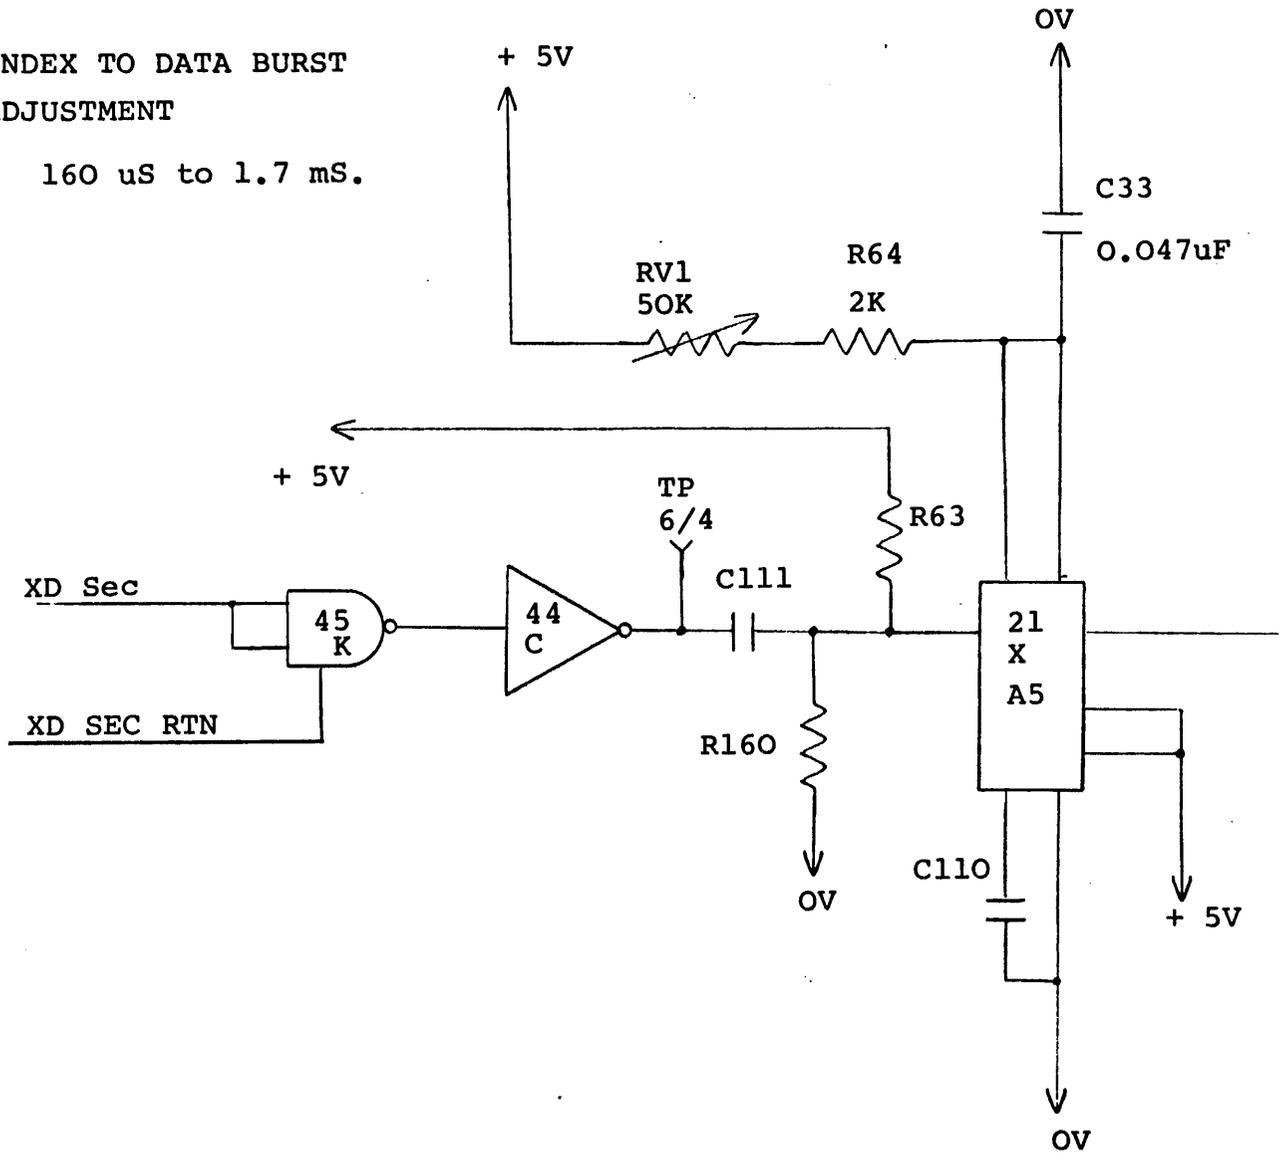

FIGURE 1
11. Amend the schematic drawing to reflect change. (Refer to Figure 1)